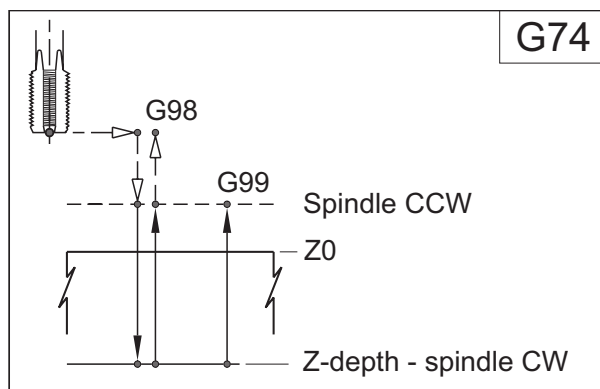

Figure 25-13
**WHEN TO USE G74 CYCLE - Figure 25-13 :**